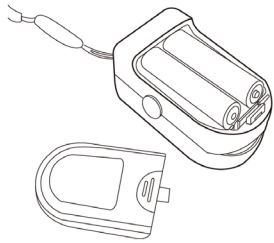

Figure 5. Batteries Installation
- Refer to Figure 5. and insert the two AAA size batteries properly in the right direction.